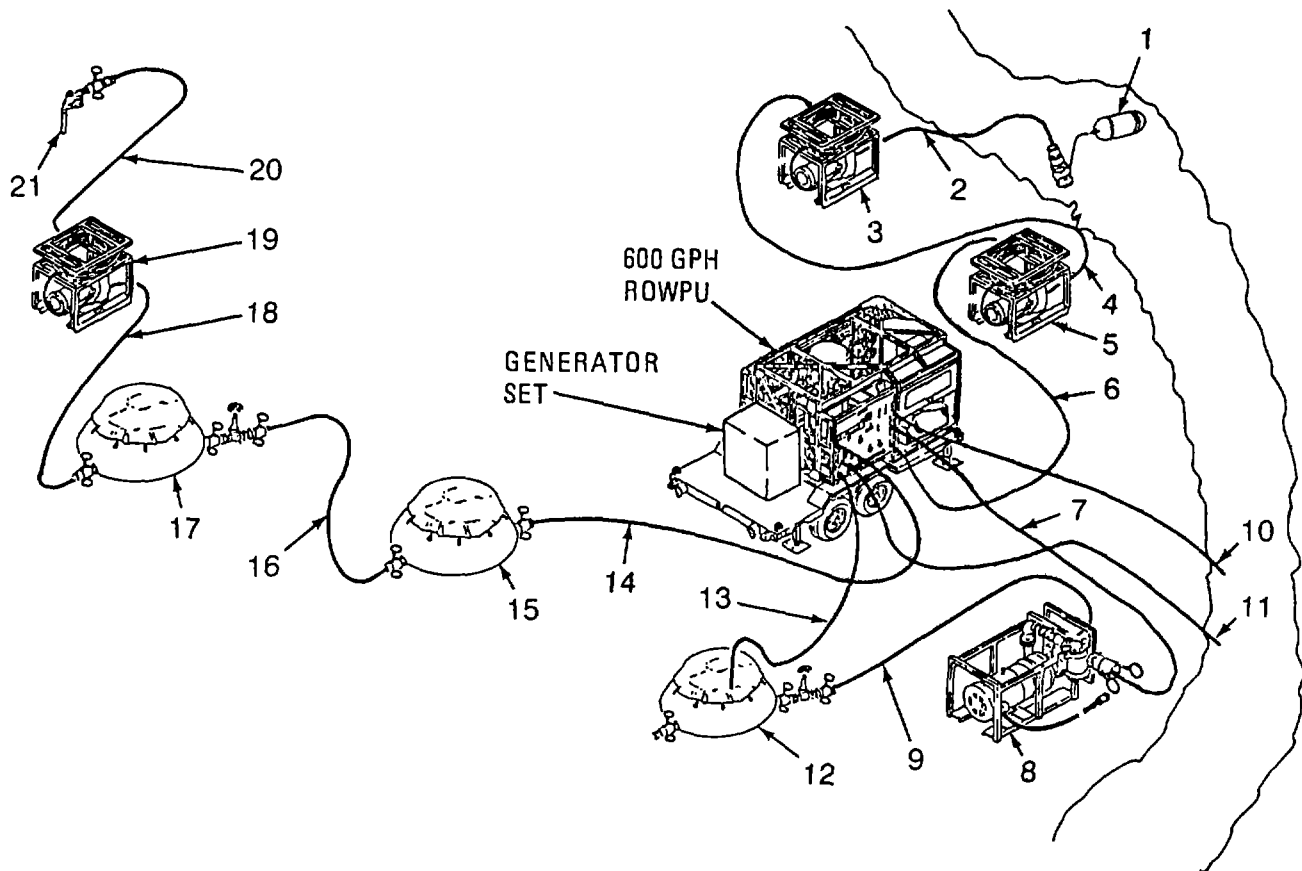

Figure 2-34. Typical Field Installation.
m. Position operational equipment as shown in figure 2-34.